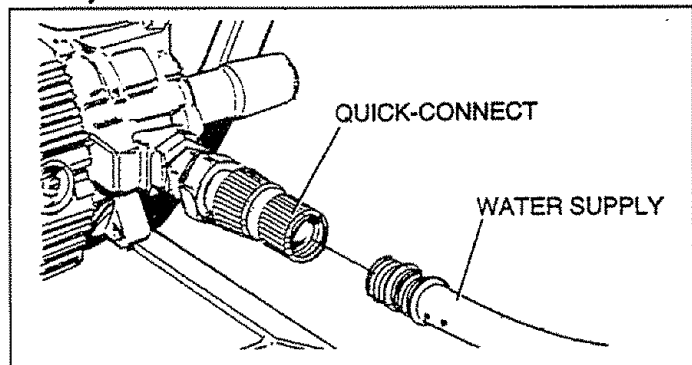

FIG. 16
- Hook up water supply (Fig. 16) and turn ON water.